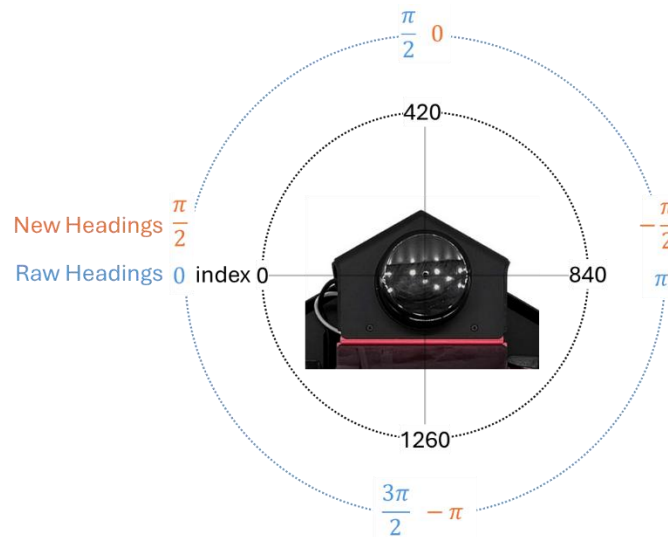

Figure 1. LiDAR measurement correction
3. Notice in `adjust_and_subsample()` under `QBPRanging()`, heading angles from the LiDAR sensor are multiplied by -1 and added to $\pi/2$. This is to correct the headings such that the angle value of 0 corresponds to the front of the QBot, as shown in Figure 1. In addition, the angles are now increasing counterclockwise, consistent with the positive convention of our reference frame. Furthermore, this function returns every 4th element in the distance and angle data, effectively downsampling these signals fourfold. Downsampling is beneficial in the obstacle detection application as it allows for faster computation when high resolution is not necessary.